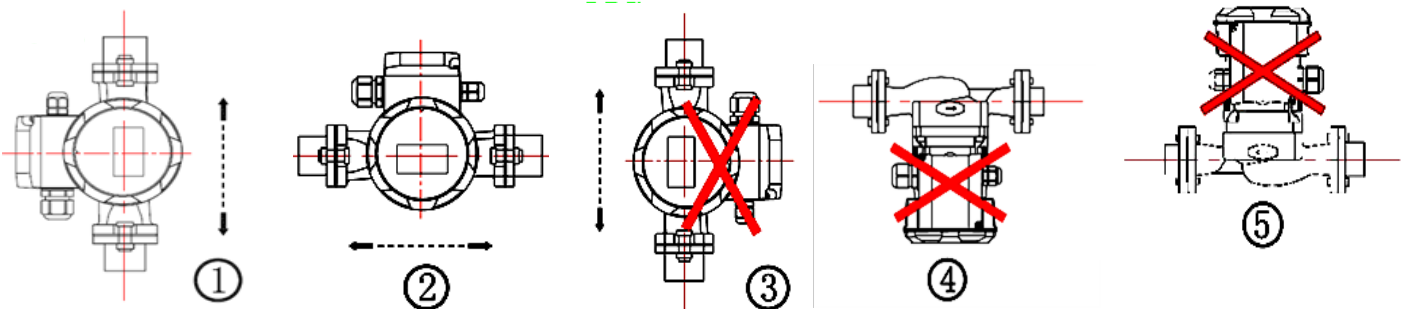

Fig. 3 - Dimensional Data
- The installation and connection dimensions (connection flanges and pump footprint) are given in **Fig.3-Page 3-Dimensional Data**